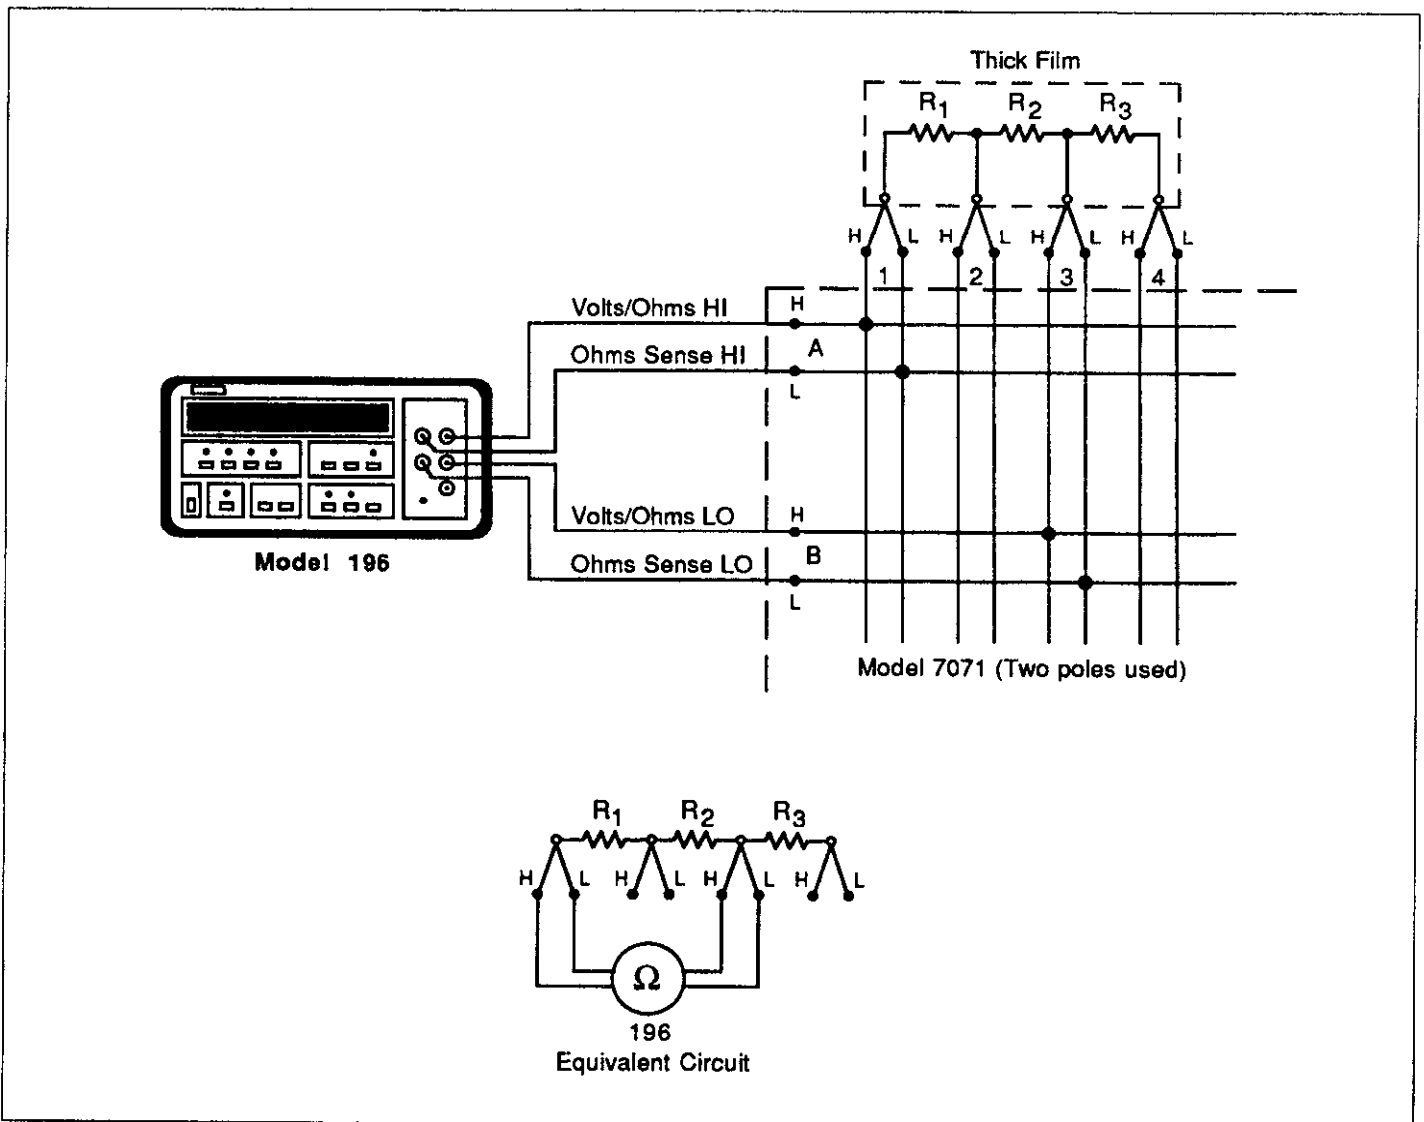

Figure 3-2. 4-Terminal Ohms Measurements
For general purpose testing, the Keithley Model 196 can be used to make 4-terminal resistance measurements of each thick film. As shown in Figure 3-2, OHMS HI and OHMS SENSE HI are connected to one matrix row, and OHMS LO and OHMS SENSE LO are connected to another matrix row. The third pole (G) of the matrix is not shown since it is not used. With this configuration, the resistance of each resistor element and/or combined elements can be measured by closing the appropriate crosspoints. In Figure 3-2, crosspoints A1 (row A, column